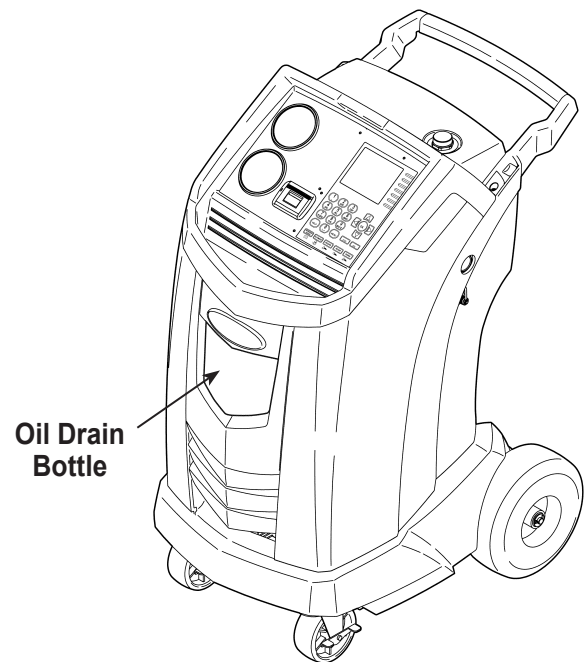

Figure 6
1. Verify the oil drain bottle on the front of the machine is empty. See Figure 6. Recover refrigerant as outlined in this manual.